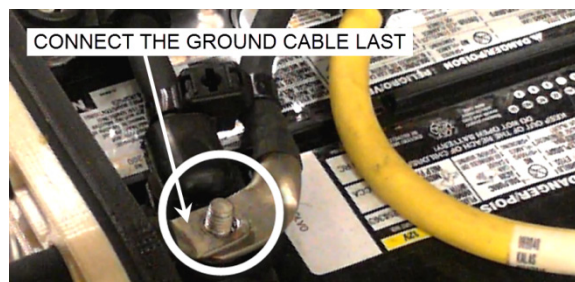

FIGURE 54: GROUND CABLE
6. Connect the ground cable last (FIGURE 54). Tighten the ground cable nut to the following torque: